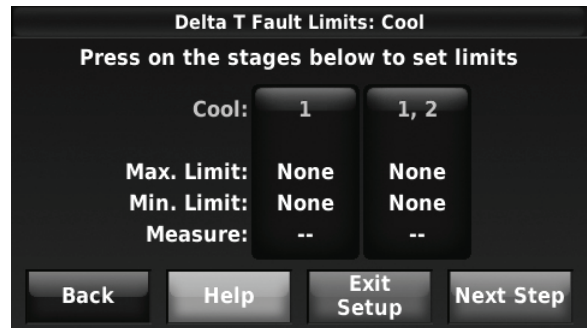
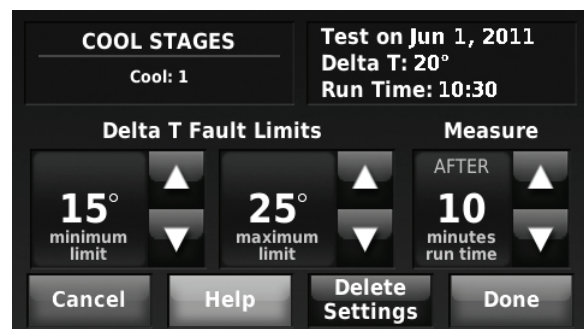

Fig. 159.
Fig. 160.
1. Press Stage 1 to set the limits and run time (see Fig. 159). Use the saved test data located in the upper right corner of the screen to set the Delta T Minimum and Maximum Limits and the Run Time (see Fig. 160).